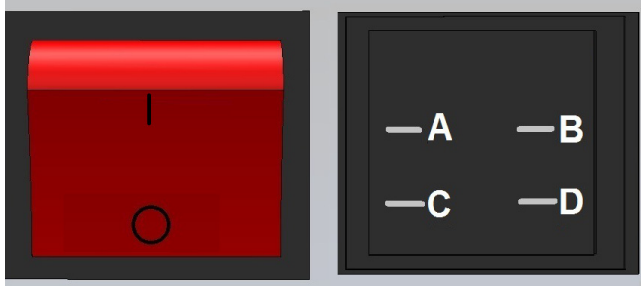
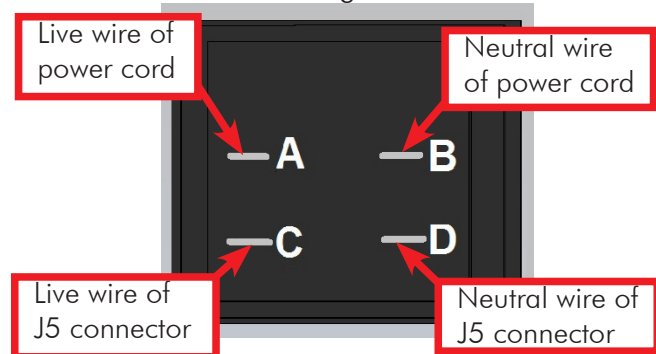

Figure 88
Figure 89
- Solder the "Live" and "Neutral" wires of the power cord to the switch as per the details shown in Figure 88 and Figure 89.